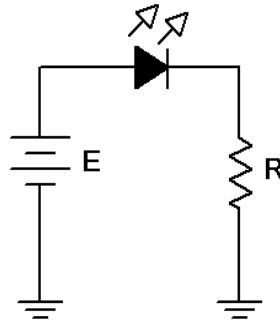

Figure 1
1. The forward potential of an LED depends on its design and the current flowing through it. The other two circuits in this exercise are designed to produce LED currents of approximately 10 mA so a determination of the forward potential of this particular diode at 10 mA is desired. Assemble the circuit of Figure 1 using $R = 470\ \Omega$, and $E = 5$ volts. Insert an ammeter in line with the LED. Increase E until 10 mA is reached (the LED should be reasonably bright). Record the resulting LED voltage in Table 1.